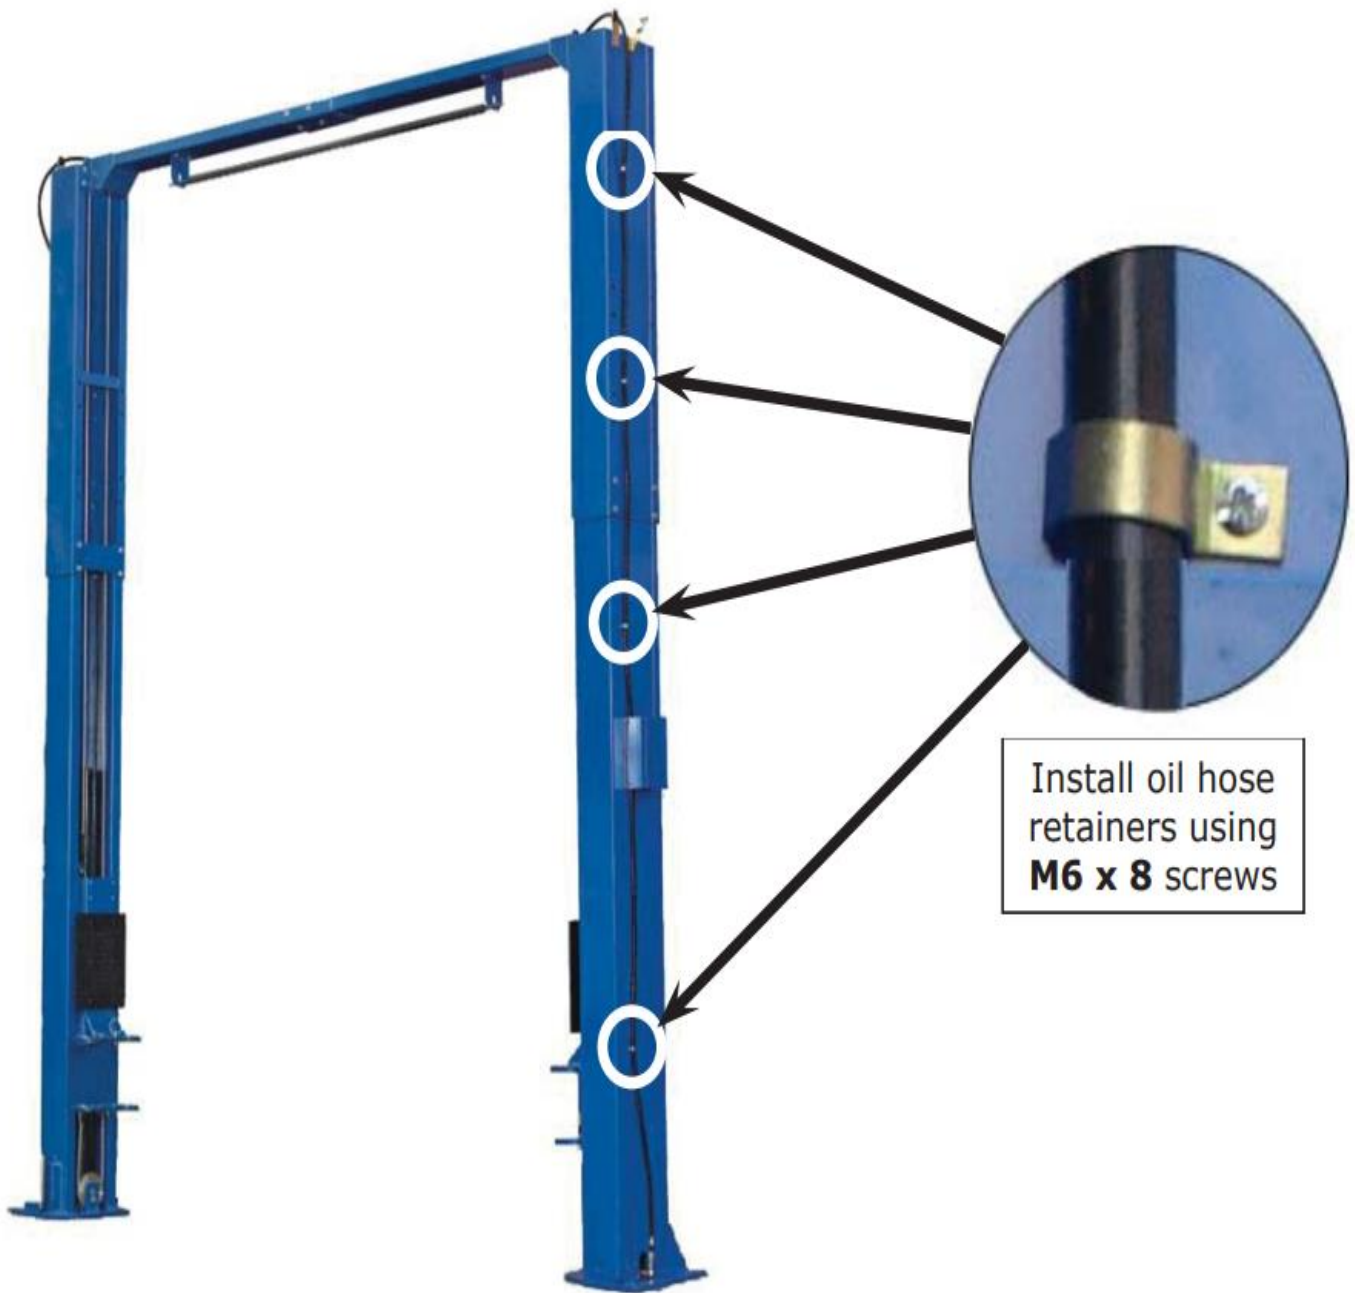

Fig. 34
P. Install hose retainers on both columns (See Fig. 34).